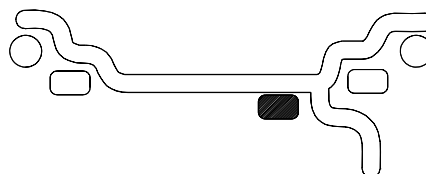

Figure 15
**B. STATIC** (single plane - Fig.15). Suggested for narrow rims (3" or less). Use a single corrective weight placed in the center of rim as illustrated in Figure 15.